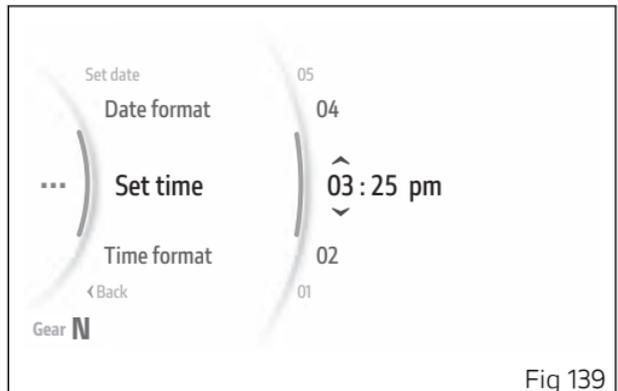

Fig 139
- From the Interactive Menu, use buttons (1) and (2) to select the item "Setting menu" and press ENTER (3).
- Select the "Date and time" item and press ENTER (3).
- Select the "Set time" item and press ENTER (3).
The hour number becomes selectable and is displayed with two arrows placed above and below it; the available values are also displayed above and below the selected parameter (Fig 139). Use buttons (1) and (2) to scroll and select the desired value. Press ENTER (3) to confirm and move on to the number of the minutes.